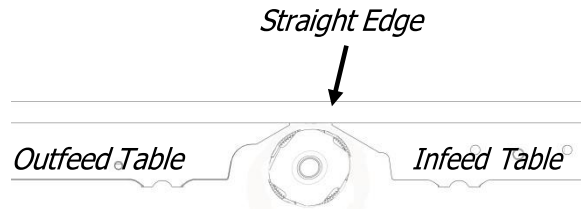

Figure 27: Straight Edge
STEP 2: Place straight edge across infeed and outfeed tables as in **FIG. 27**. If inserts interfere with straight edge, rotate the cutterhead.